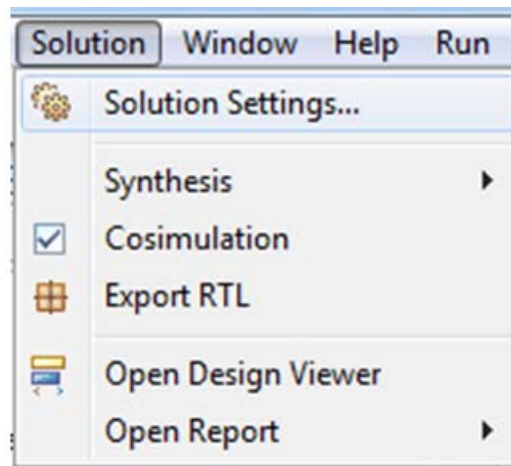

Figure 3-11: Solution Settings
9. Click **Finish**, the Vivado HLS GUI should look like Figure 3-11
4. Click **Solution > Solution Settings** (Figure 3-11).